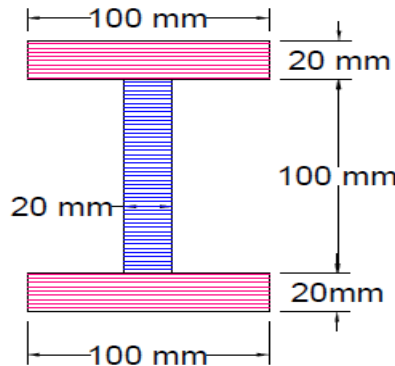

Fig 2
11. (a) Determine the shape factor of the I section as shown in figure 2.